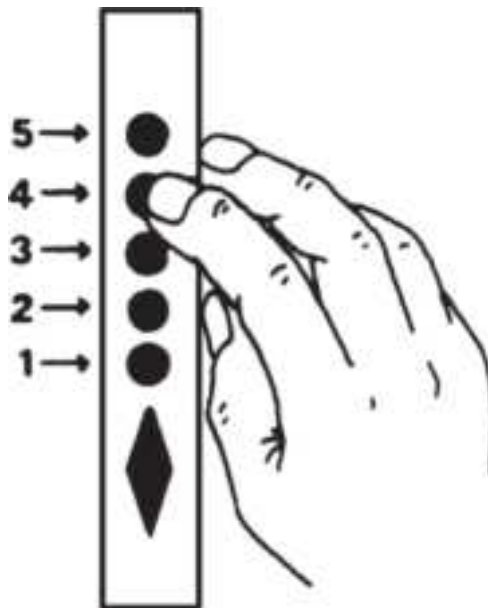

**Figure 18.6** Changing Simplex combination, Step 5.
5. Push the buttons for the new combination firmly and in sequence (Fig. 18.6 ).